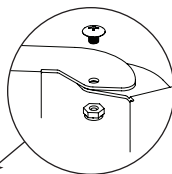

Fig. 3b
3. Attach the hinge brackets to the ends of arms using bolts and nuts positioning them as shown on (*Fig. 3b, pg. 4*).